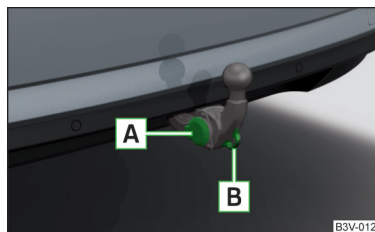

Fig. 209
- Plug the trailer (accessory) connector into the 13-pin socket **A** » Fig. 209. (If the trailer / accessories have a 7-pin connector, use a corresponding reduction piece from the ŠKODA Original Accessories).